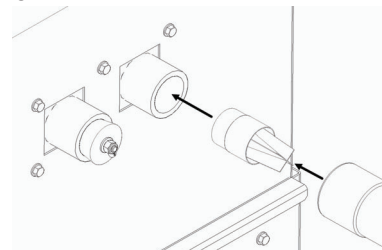

FIGURE A.2
2. Connect hoses to the inlets utilizing the 1-3/4" hose to 2" adapters. The 1-3/4" hose to 1-3/4" tube adapters that come with the hose kits should be removed and discarded. If applicable, install the inlet spark arrester(s) to the inlet of the machine prior to installing the hose(s). See Figure A.2.